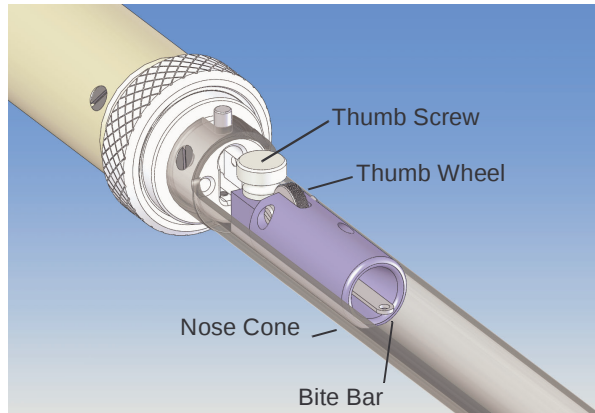

Figure 4. Animal Adjustments
3. Remove the chamber cover (Figure 4).